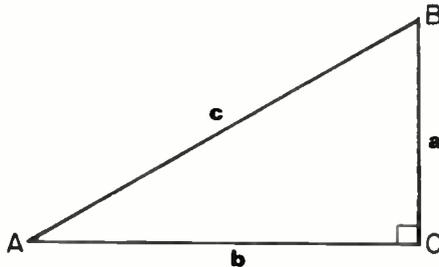

Fig. 1 A right triangle
6 THE RIGHT TRIANGLE . . . The triangle in Fig. 1 is called a *right triangle* because one of its sides, a (the line extending between points B and C), is perpendicular to one of the other sides, b (the line extending between points A and C). That is, side b is "square" to side a . The angle at C is 90° and is called a *right angle*.
- 10 The longest side of a right triangle is called its *hypotenuse*. The hypotenuse is always opposite the right angle. The other two sides are called the *legs*. In Fig. 1, c is the hypotenuse and b and a are the legs.
where c , b , and a are all sides of the triangle as shown in Fig. 1.
Example . . . In Fig. 1, if $a = 32$ and $b = 21$, $c =$ _____.
- In Fig. 1, if $a = 2.1$ and $b = 1.69$, $c =$ _____. $\frac{2.1 + 1.69 = 3.79^2}{\sqrt{14.30}}$